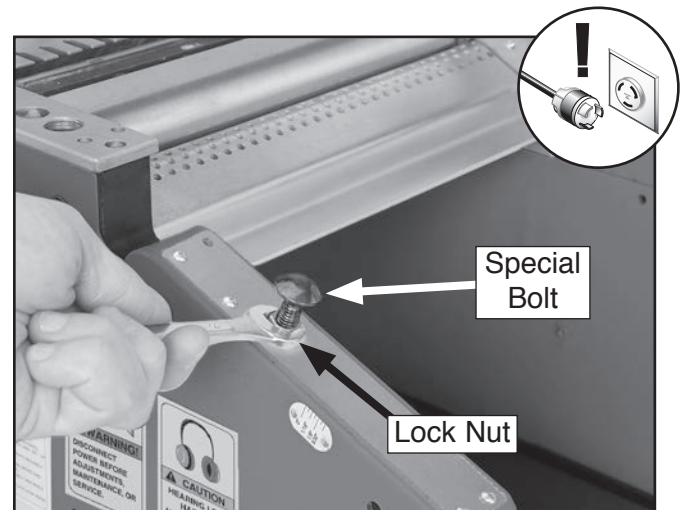

Figure 71. Table lock lever bolt.
4. Loosen lock nut on special bolt under table, as shown in **Figure 71**.